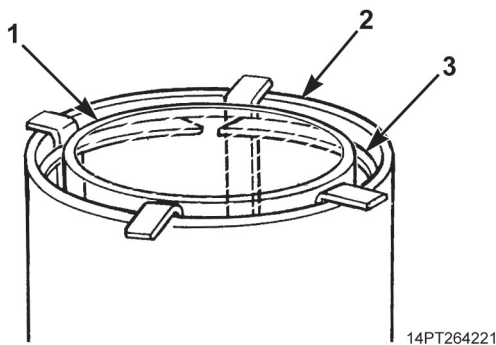

Figure 17. Sleeve Removal From Barrel.
24. Using two small screwdrivers, remove bottom retaining ring (Figure 17, Item 3) from groove of barrel (Figure 17, Item 2). Position four hydraulic cylinder disassembly tools, equally spaced, between bottom retaining ring and barrel.
25. Remove sleeve (Figure 17, Item 1) from barrel (Figure 17, Item 2). Remove bottom retaining ring (Figure 17, Item 3) from sleeve.